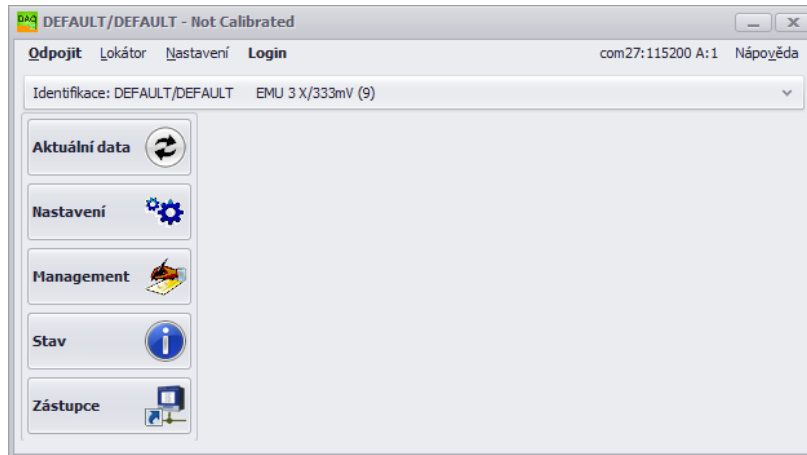

Figure 8: ENVIS.Daq application window with connected EMU 3 instrument.
5. Press *Connect* on menu or *ENTER*. The application attempts to connect to the specified device. If the connection is successful, it loads the settings stored in the device and displays a summary window (fig. 8).